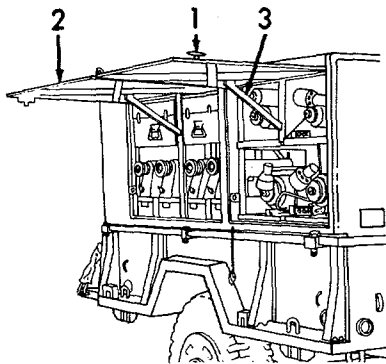

Figure 2-3. Opening the Side Doors.
a. *Opening Up the Trailer (Refer to Figures 2-3 and 2-4).*
(1) Refer to Figure 2-3. Turn both latch handles (1) on each side door (2) to unlock the doors (2).
(2) Raise the doors (2) and make sure the door stays (3) latch to hold the doors (2) in the open position.